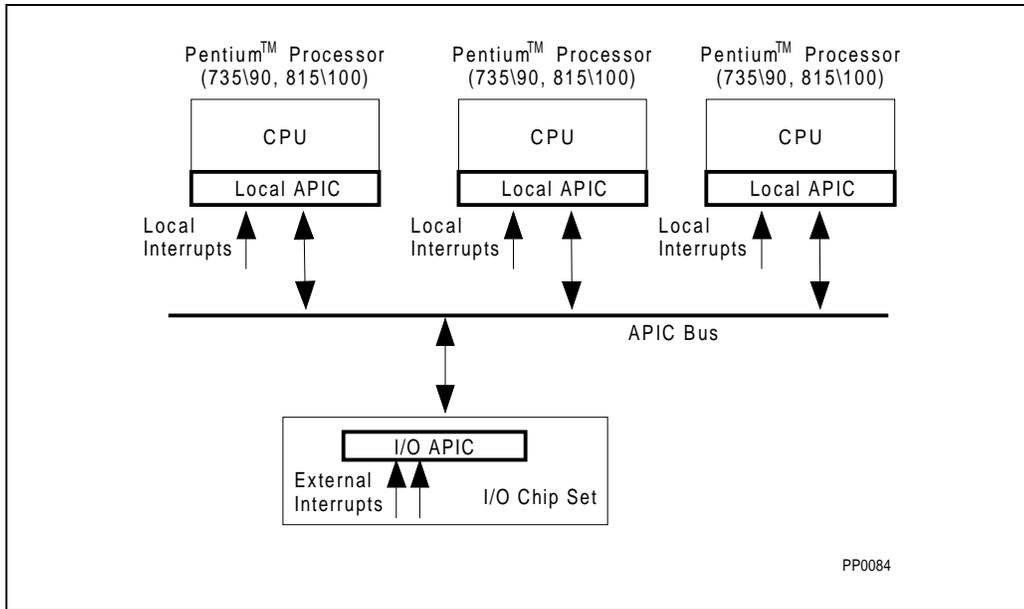

Figure 19-1. Local APIC Within a Pentium Processor (735\90, 815\100)-Based MP System
For multiprocessor (MP) systems, the APIC architecture would generally have a decentralized implementation, consisting of two main components: a *Local APIC* and an *I/O APIC*. See Figure 19-1. The I/O APIC is part of the system chipset. It is responsible for capturing interrupts injected by I/O devices, and distributing them among Local APICs via the APIC Bus. The Local APICs control dispatching of interrupts to their corresponding processors.